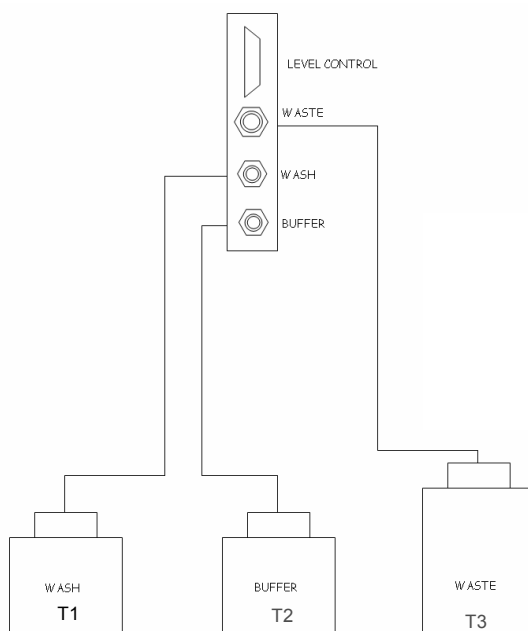

fig. 1 - Hydraulic circuit
Figure 1 shows how wash/waste containers are connected up to the instrument.
- connect tubing to appropriate containers as indicated in figure 1